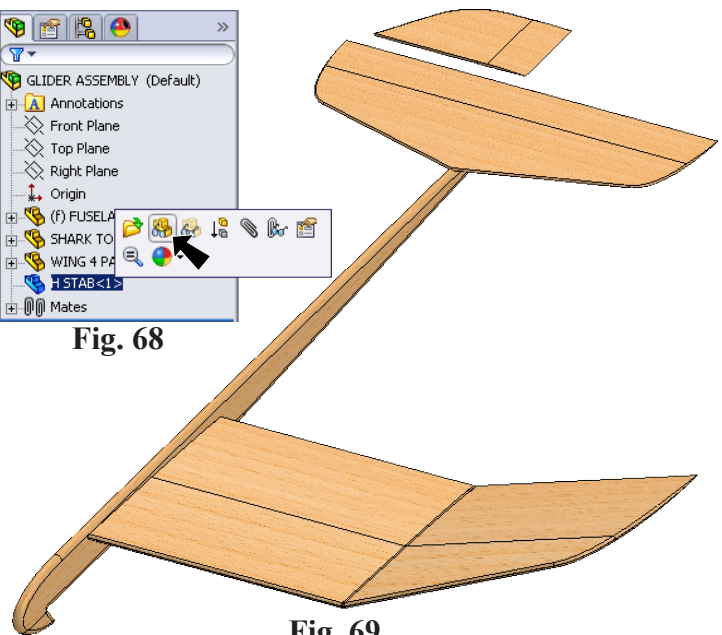

Fig. 69
Step 3. Click **Browse** and place V Stab as positioned in **Fig. 69**.